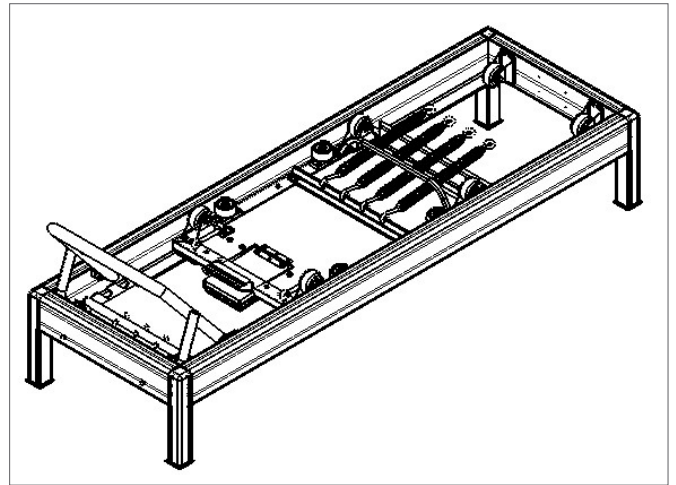

Figure 7
15. Place the new carriage into the frame but vinyl side down (wheels facing up) on the towels. See Figure 7.